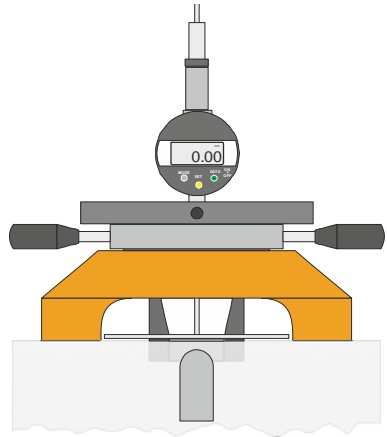

Figure 7.
5. Place the gauge and holder into the aperture of the die tightening ring; the gauge sensor should touch the setting sheet (see Figure 7).